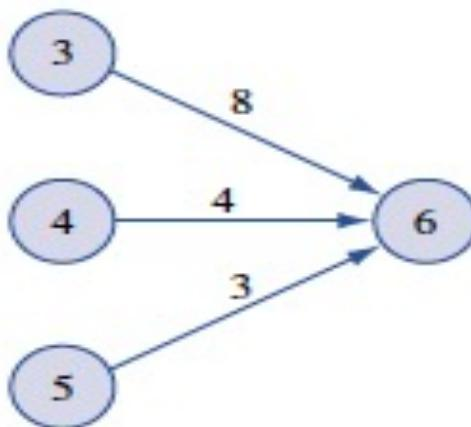

Figure 5.7 Determination of $ET(6)$
- To illustrate how $ET(i)$ is calculated, suppose that for the segment of a project network in Figure 5.7, we have already determined that $ET(3) = 6$, $ET(4) = 8$, and $ET(5) = 10$.